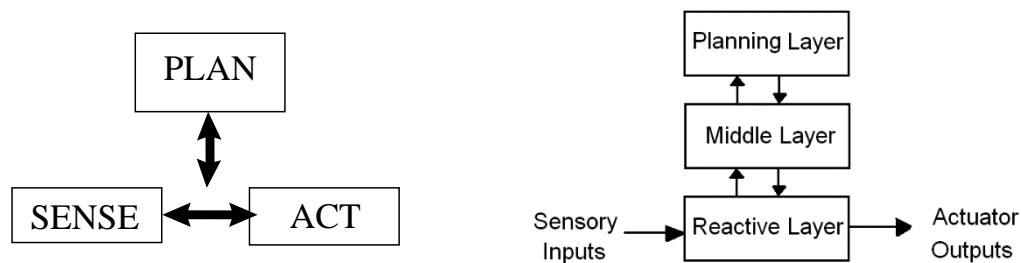

Figure 4: Homing Hybrid Control Architecture
- Next, you will design a complete different architecture for hybrid control. The hybrid control architecture that you will implement to home the robot includes a reactive layer (obstacle avoidance, wall following, move to goal (light following), path update), middle layer (arbitrator), and deliberative layer (current state, path plan, follow back to wall). This architecture is shown in Figure 4. Your code should be written in a modular fashion with functions such that it is evident where the planning, sensing and acting take place. Turn on a GREEN LED to indicate wall following.